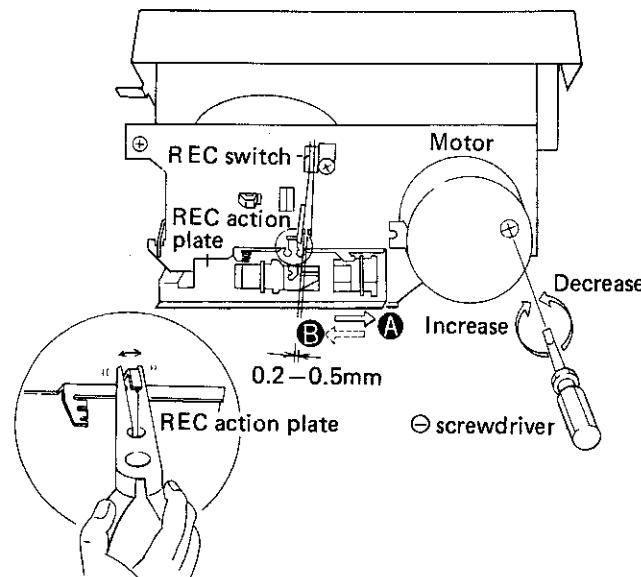

Fig. 12-2 Tape speed and REC switch adjustment
- Play back the 3kHz portion of the STD-301 test tape. At the beginning, the frequency should be lie within the 3000Hz ~ 3010Hz range, and may be adjusted by turning the semi-fixed resistor located in the motor adjustment hole as shown in Fig. 12-2.